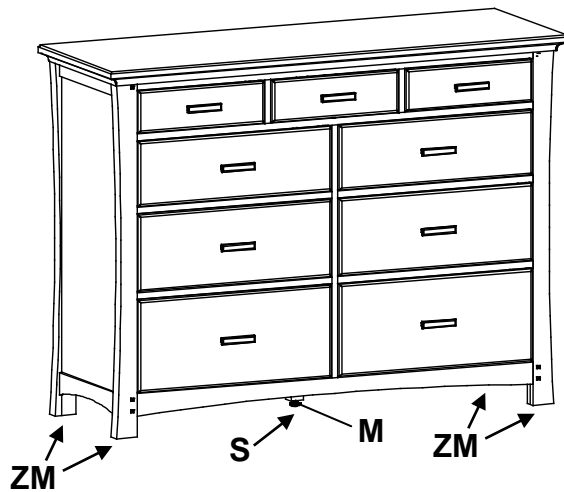

Fig. 4
4. Place the unit at its final destination. Rotate the Small Adjustable Glides (ZM) found at the corners of the unit and the Adjustable Glide with Hex Nut (S) at the bottom of the Assembled Foot (M) until the unit is level. See Figure 4.